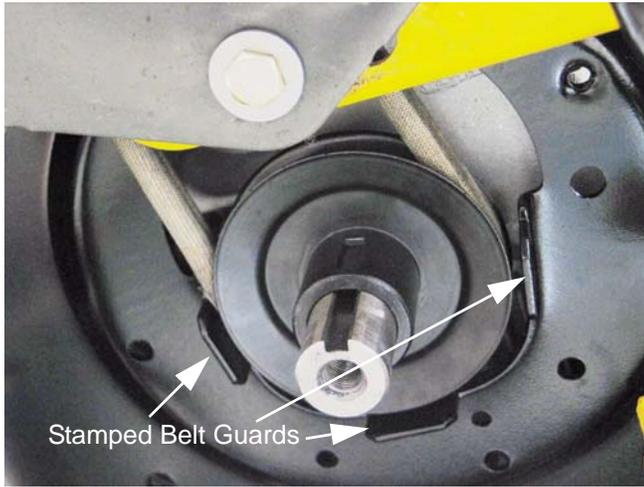

Figure 23.8
23.8. Slip the crankshaft pulley down far enough to get the belt off of the pulley, and remove the belt from the crankshaft. See Figure 23.8.